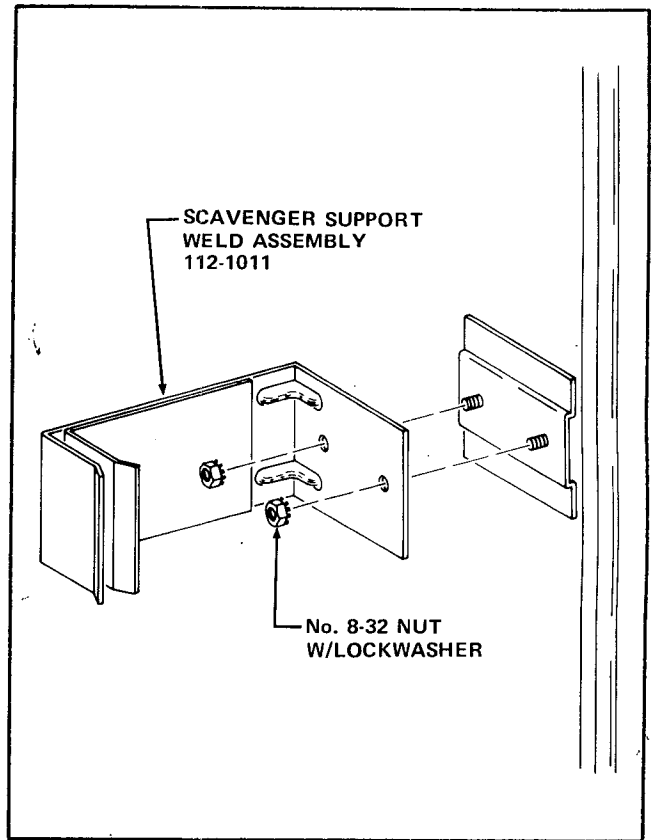

FIGURE 4-6
45. Install the Scavenger Support Weld Assembly, Part Number 112-1011, included in the Kit, on the Bracket on the right inside wall of the Cabinet using two No.8-32 Nuts with Lockwashers. See Figure 4-6.